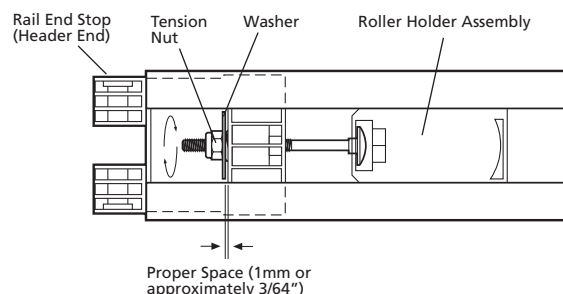

Fig. 55A
- Reassemble belt connector, and slide all rail parts into rail from header end according to original assembly (Fig. 55 and Fig. 55A).
- Reassemble two piece connector and slide chain and all rail parts into rail from header end according to original assembly (Fig. 55 and Fig. 55A).